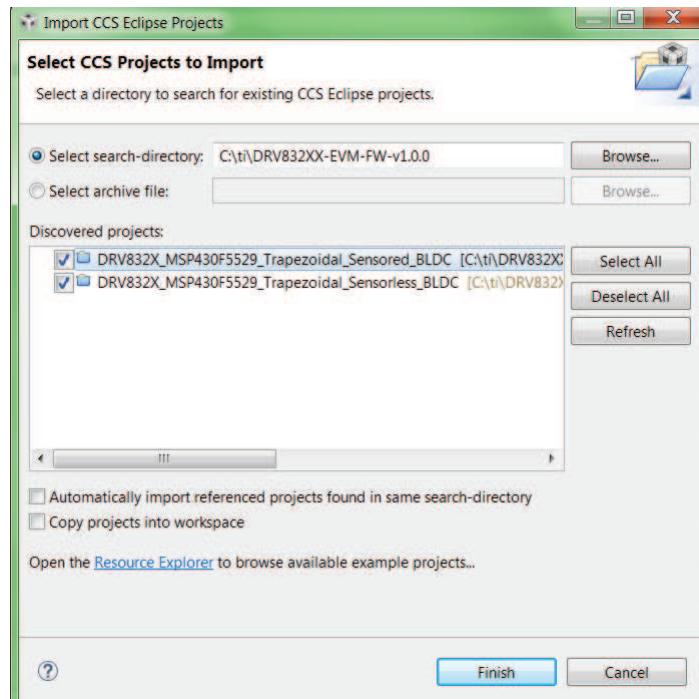

Figure 24. Selecting Existing Projects
- Step 5. In the new window that appears showing the import options, click the *Browse...* button and find the provided projects through the folder browser. These projects are located in the SDK installation directory. The example location is C:\ti\DRV832XX-V1.0 (see Figure 24). When selected, the provided project appears under *Discovered Projects*.
- Step 6. Make sure the correct box is checked and then click the *Finish* button (see Figure 24).